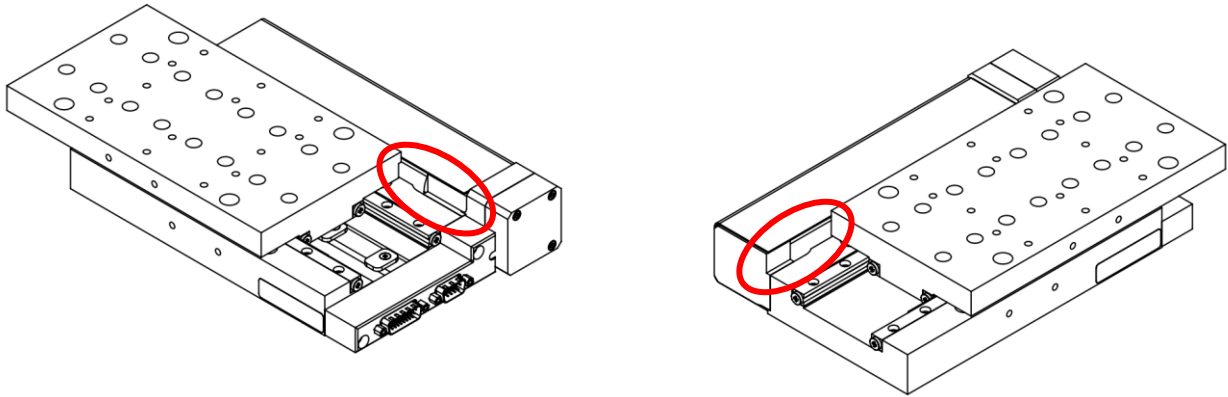

Figure 3. LNS Pinch Point Hazard Locations
**DANGER:** Due to the intended design of the LNS, there exists pinch points (as shown in Figure 3) that are unavoidable. De-energize the equipment whenever direct contact with the LNS stage is required. Labels are not provided on the product for this specific hazard; depending on your intended use, labels may be required to be affixed to the machine locations highlighted below.